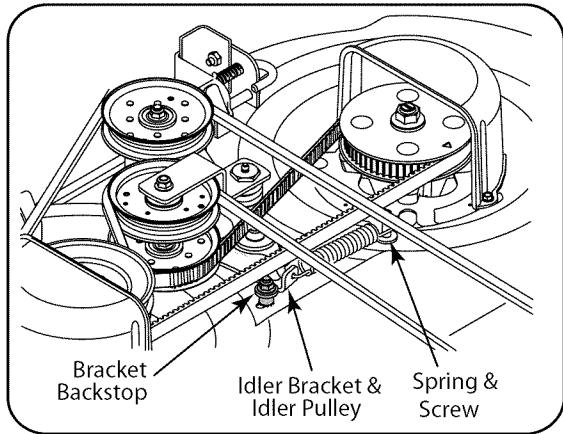

Figure 7-4
- Remove the hex screw, flat washer, lock washer, shoulder spacer, and flange lock nut that make up the idler bracket backstop. **NOTE:** It may be necessary to clean the underside of the mowing deck to access the hex screw. Refer to Figure 7-4.
- Applying force to either the timing belt idler pulley or the timing belt idler bracket, pivot and hold the idler bracket against the spring tension just far enough to allow lifting the timing belt off and above the idler pulley. Carefully release the idler bracket. See Figure 7-4.
- Repeat the above procedure to remove the belt from the left hand spindle assembly timing pulley. Refer to Figure 7-4.
- Loop the new timing belt and maneuver the belt between the drive pulley on top of the right hand spindle assembly and the spindle cover. Lower the belt until loosely around the right hand timing pulley. Refer to Figure 7-4.
- Remove the deck from the tractor. Remove the idler bracket backstop. Refer to Figure 7-4.